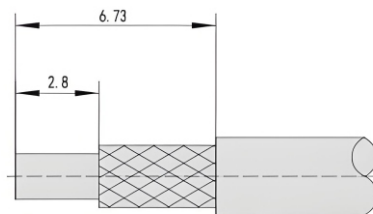

Figure 1.1
- ① Strip the cable as shown in Figure 1.1. The end face must be cut clean and perpendicular to the cable's axis. The cable must not be deformed during cutting. Thermal stripping is recommended.